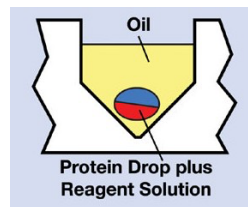

Figure 2 – Microbatch protein crystallization method.
**Microbatch** - the protein solution and the precipitant are mixed and supersaturation is achieved due to lower solubility of the protein in the presence of the precipitant rather than by vapor diffusion. The drop is dispensed under oil, to prevent evaporation (Figure 2).